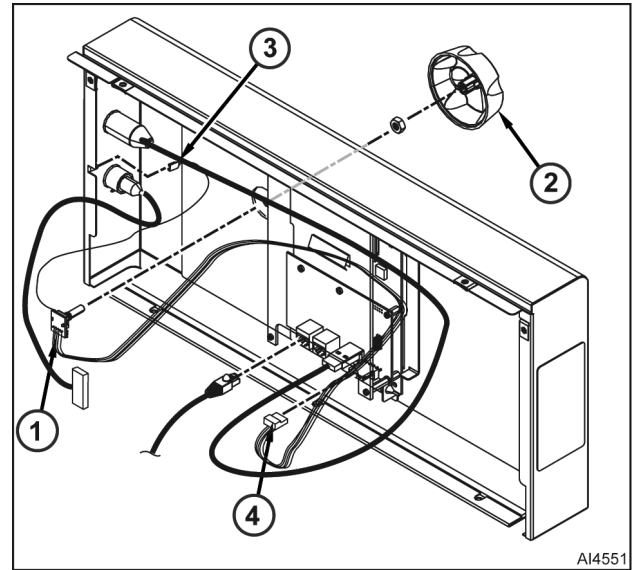

Fig. 4
3. Pull encoder knob (2, Fig. 4) and nut from encoder (1).
4. Disconnect encoder cable connector (4, Fig. 4) from touch panel / display assembly.
5. Disconnect spade lug (3, Fig. 4) from control panel frame.